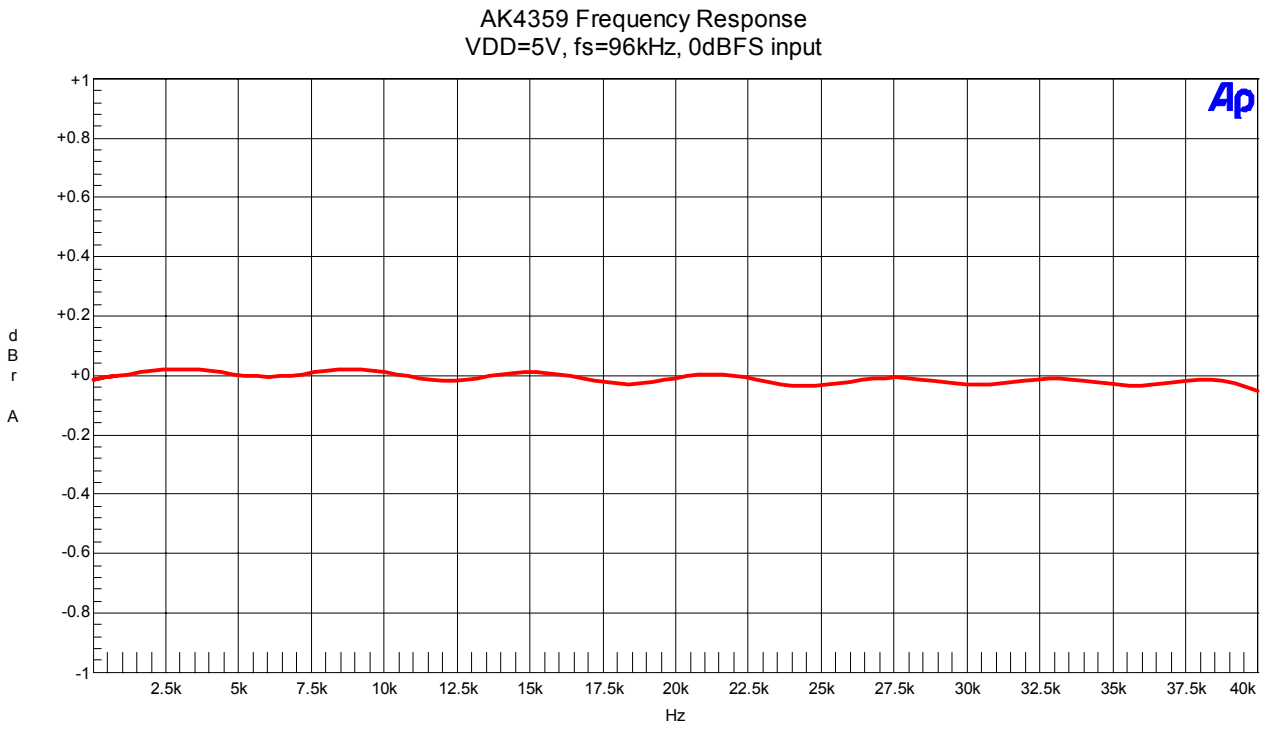

Figure20. Frequency Response (Input level=0dBFS)
- Figure20. Frequency Response (Input level=0dBFS)